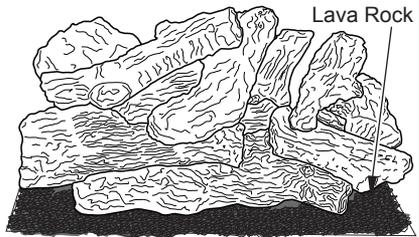

Figure 26 - Installing Lava Rock
4. Place lava rock around base of burner. Make sure burner ports are not covered (see Figure 26).